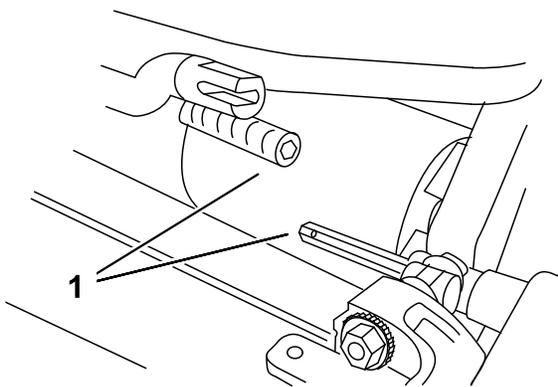

Figure 6
3. Push the cutting unit under the traction unit and to the left to engage the transmission coupling (Figure 6).